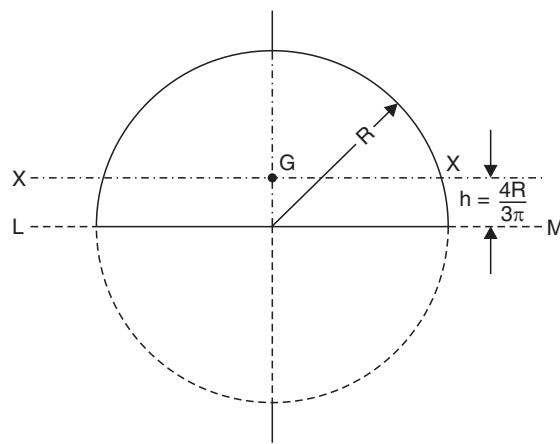

Fig. 8.14
**6. Moment of inertia of a semi-circular lamina.** In Fig. 8.14 is shown a semicircle of radius  $R$ . Let  $LM$  be the base of the semicircle.